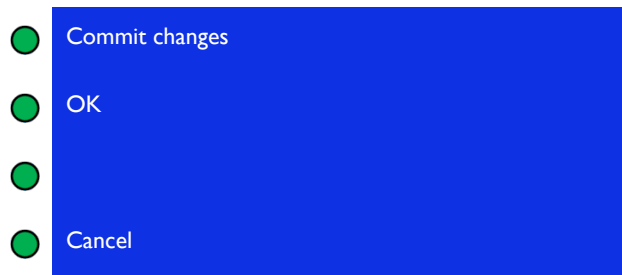

Figure 19: Commit Changes
- When DHCP is disabled and you want to enable DHCP press ✓. A Commit Changes Page appears (Figure 19).
5. On the Commit changes screen (Figure 19), press ↓ to reach OK.